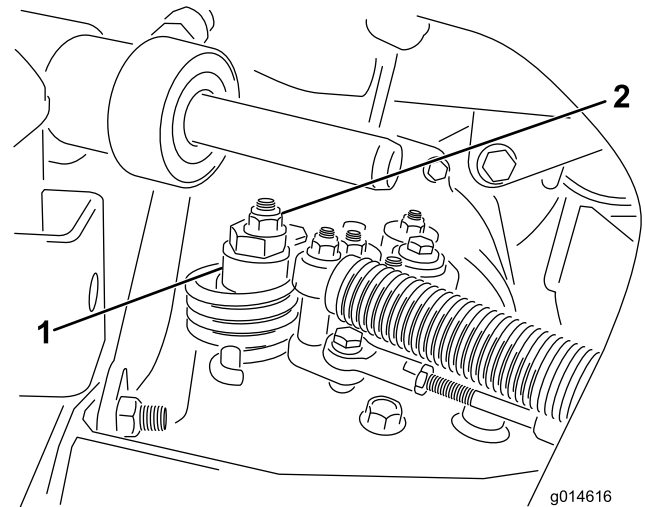

Figure 47
- Loosen the nut securing the eccentric to the top of the hydrostat (Figure 47).
- Rotate the eccentric until creep does not occur in either direction. When the wheel stops rotating, tighten the nut locking the eccentric and the adjustment (Figure 47). Verify the adjustment with the throttle in the Slow and Fast position.